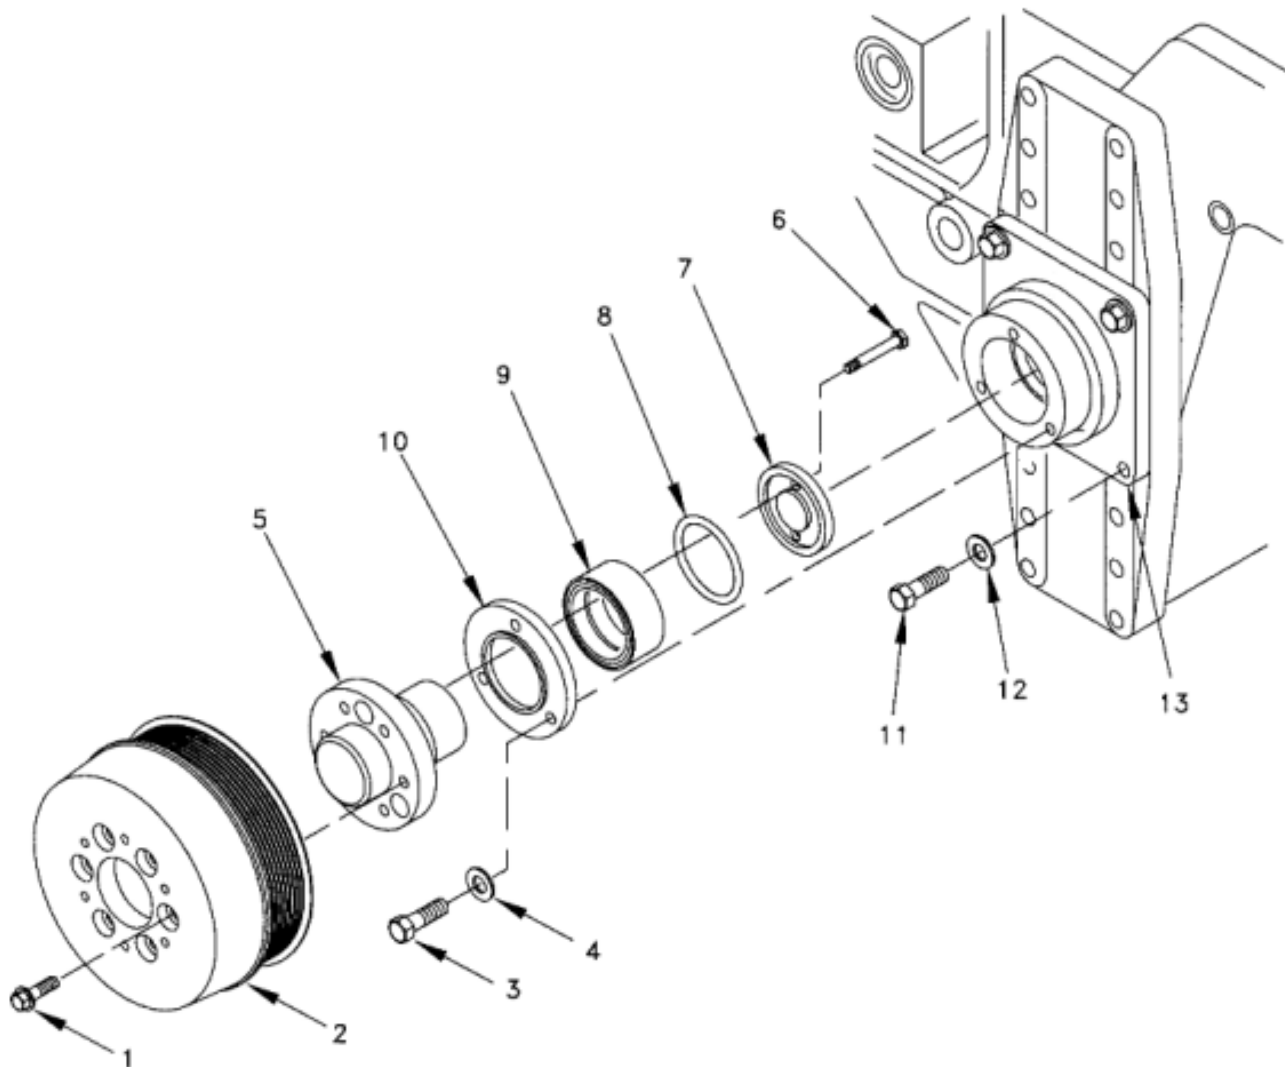

Figure 1. Fan Pulley.
1. Remove six bolts (Figure 1, Item 1) and fan pulley (Figure 1, Item 2).
2. Remove three bolts (Figure 1, Item 3), washers (Figure 1, Item 4), and shaft (Figure 1, Item 5) with parts attached.
3. Remove two bolts (Figure 1, Item 6), plate (Figure 1, Item 7), O-ring (Figure 1, Item 8), bearing (Figure 1, Item 9), and retainer (Figure 1, Item 10) from shaft (Figure 1, Item 5).
4. Remove four bolts (Figure 1, Item 11), washers (Figure 1, Item 12), and bracket (Figure 1, Item 13).
1. Install bracket (Figure 1, Item 13) and secure with four washers (Figure 1, Item 12) and bolts (Figure 1, Item 11).
2. Install retainer (Figure 1, Item 10), bearing (Figure 1, Item 9), O-ring (Figure 1, Item 8), and plate (Figure 1, Item 7) on shaft (Figure 1, Item 5) and secure with two bolts (Figure 1, Item 6). Torque bolts (WP 0095).
3. Install shaft (Figure 1, Item 5) and attached parts on bracket (Figure 1, Item 13) and secure with three washers (Figure 1, Item 4) and bolts (Figure 1, Item 3). Torque bolts (WP 0095).
4. Install fan pulley (Figure 1, Item 2) and secure with six bolts (Figure 1, Item 1). Torque bolts (WP 0095).